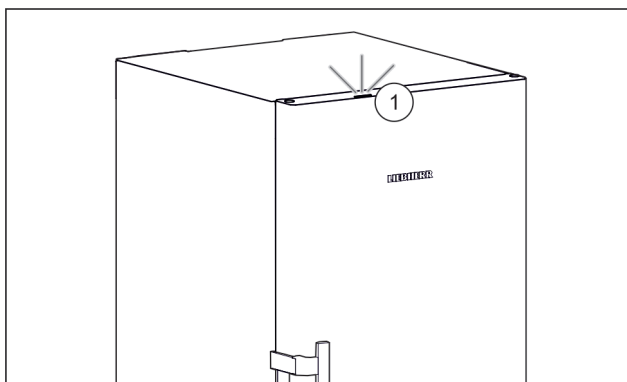

Fig. 27 Active status light when the door is closed
- Status light Fig. 27 (1) is activated.